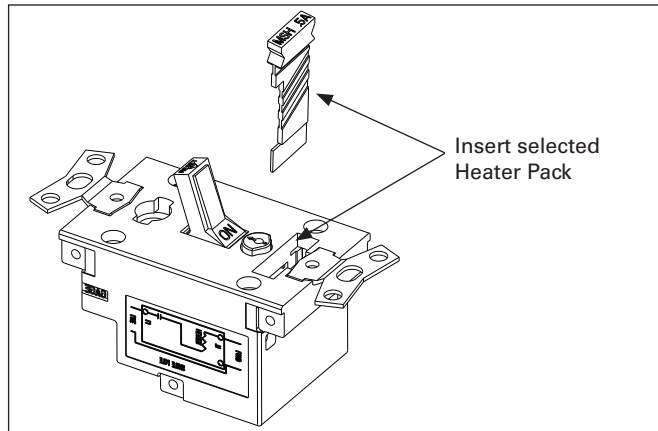

Figure 4. Installation of Heater Pack
6. Install the MSH heater pack into location within the starter (C) as shown in Figure 4. (Available heater packs are shown in Table 1.)